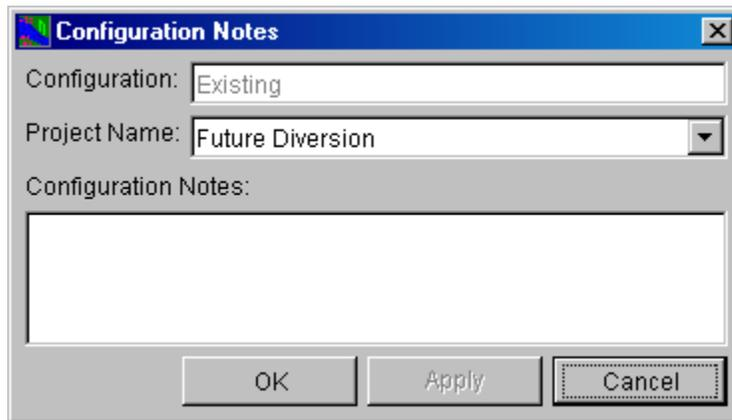

Figure 6.16 Configuration Notes - Diversion
2. From the shortcut menu, select **Configuration Notes**. This command opens a dialog box (Figure 6.16) for entering text information about a diversion that is specific to the configuration.